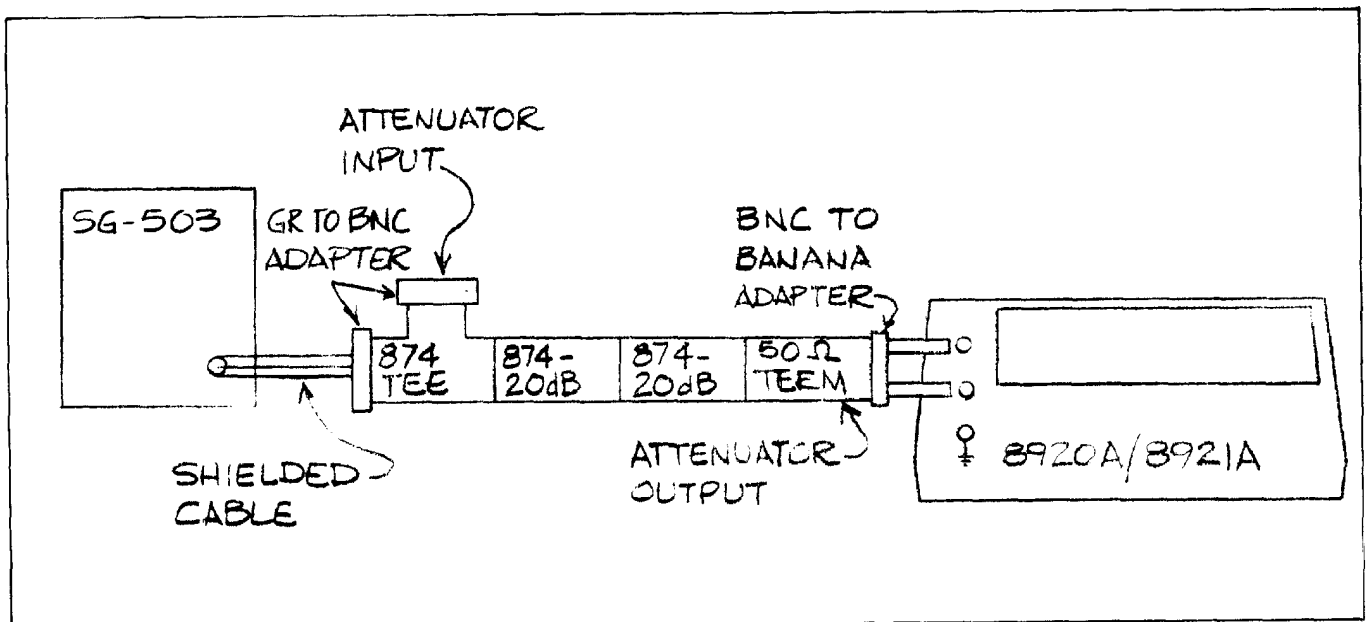

Figure 4-3. AC Low Level Check Test Set-Up
4-20. This procedure will verify that the UUT's low level AC performance meets the specifications of Section 1. Set up the test equipment as shown in Figure 4-3 and complete the AC Low Level Calibration procedure. Replace steps 2-d and 2-e with the following:
- 1-b. Set up the test equipment as shown in Figure 4-3.